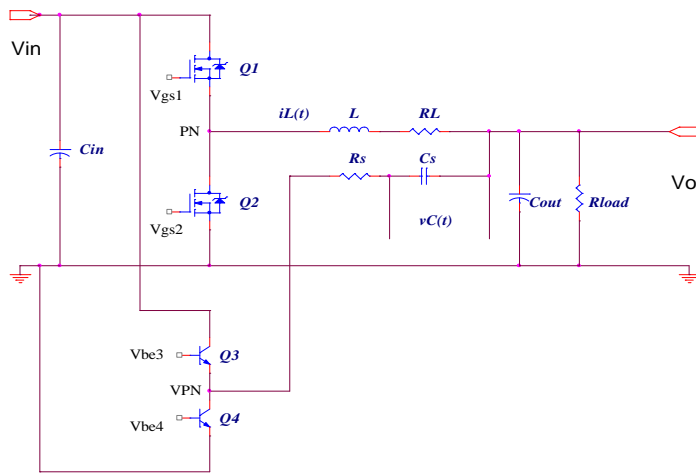

Fig.1 The Basic Structure of Combi-Sense.
The basic structure of the Combi-Sense is shown in Fig.1. Where  $R_L$  is the equivalent resistance of the output inductor. The added  $R_s$  and  $C_s$  form the RC branch in "parallel" with the output inductor for inductor current sensing. This branch works with a small signal totem pole (Q3 and Q4) integrated in SC4510 in order to improve the signal-to-noise ratio. The base signals Vbe3 and Vbe4 are designed to closely follow the gate signals Vgs1 and Vgs2, respectively. Ideally, the leading and falling edges of the Virtual Phase Node (VPN) follow that of the Phase Node (PH) when Q1~Q4 switch in perfect synchronism.
When Q1/Q3 turn ON and Q2/Q4 turn OFF, the equivalent circuit of Fig.1 is shown in Fig. 2a). Where,  $R_{ds1}$  is the on-resistance of the top MOSFET. The two branches, consisting of  $\{(R_{ds1}+R_L), L\}$  and  $\{R_s, C_s\}$ , are in parallel. The DC voltage drop  $(R_{ds1}+R_L)I_o$  equals  $V_{cs}$ . In this way, the output current is sensed from  $V_{cs}$  when  $(R_{ds1}+R_L)$  is known.
When Q1/Q3 turn OFF and Q2/Q4 turn ON, the equivalent circuit of Fig.1 becomes the sub-circuit as shown in Fig. 2b). Where  $R_{ds2}$  is the channel resistance of the bottom MOSFET. In this case, the branch  $\{R_s, C_s\}$  is in parallel with  $\{(R_{ds2}+R_L), L\}$  and  $V_{cs}=(R_{ds2}+R_L)I_o$ .
In SC4510, the current limiting is performed on cycle-by-cycle basis. When the voltage difference between CS+ and CS- exceeds 65 mV, the top MOSFET duty ratio is clipped in order to limit the output source current. Similarly, when the voltage difference between CS- and CS+ exceeds 113 mV, the bottom MOSFET duty ratio is clipped in order to limit the sink current. For the configuration in Fig.1, the convertor output current limit is set around